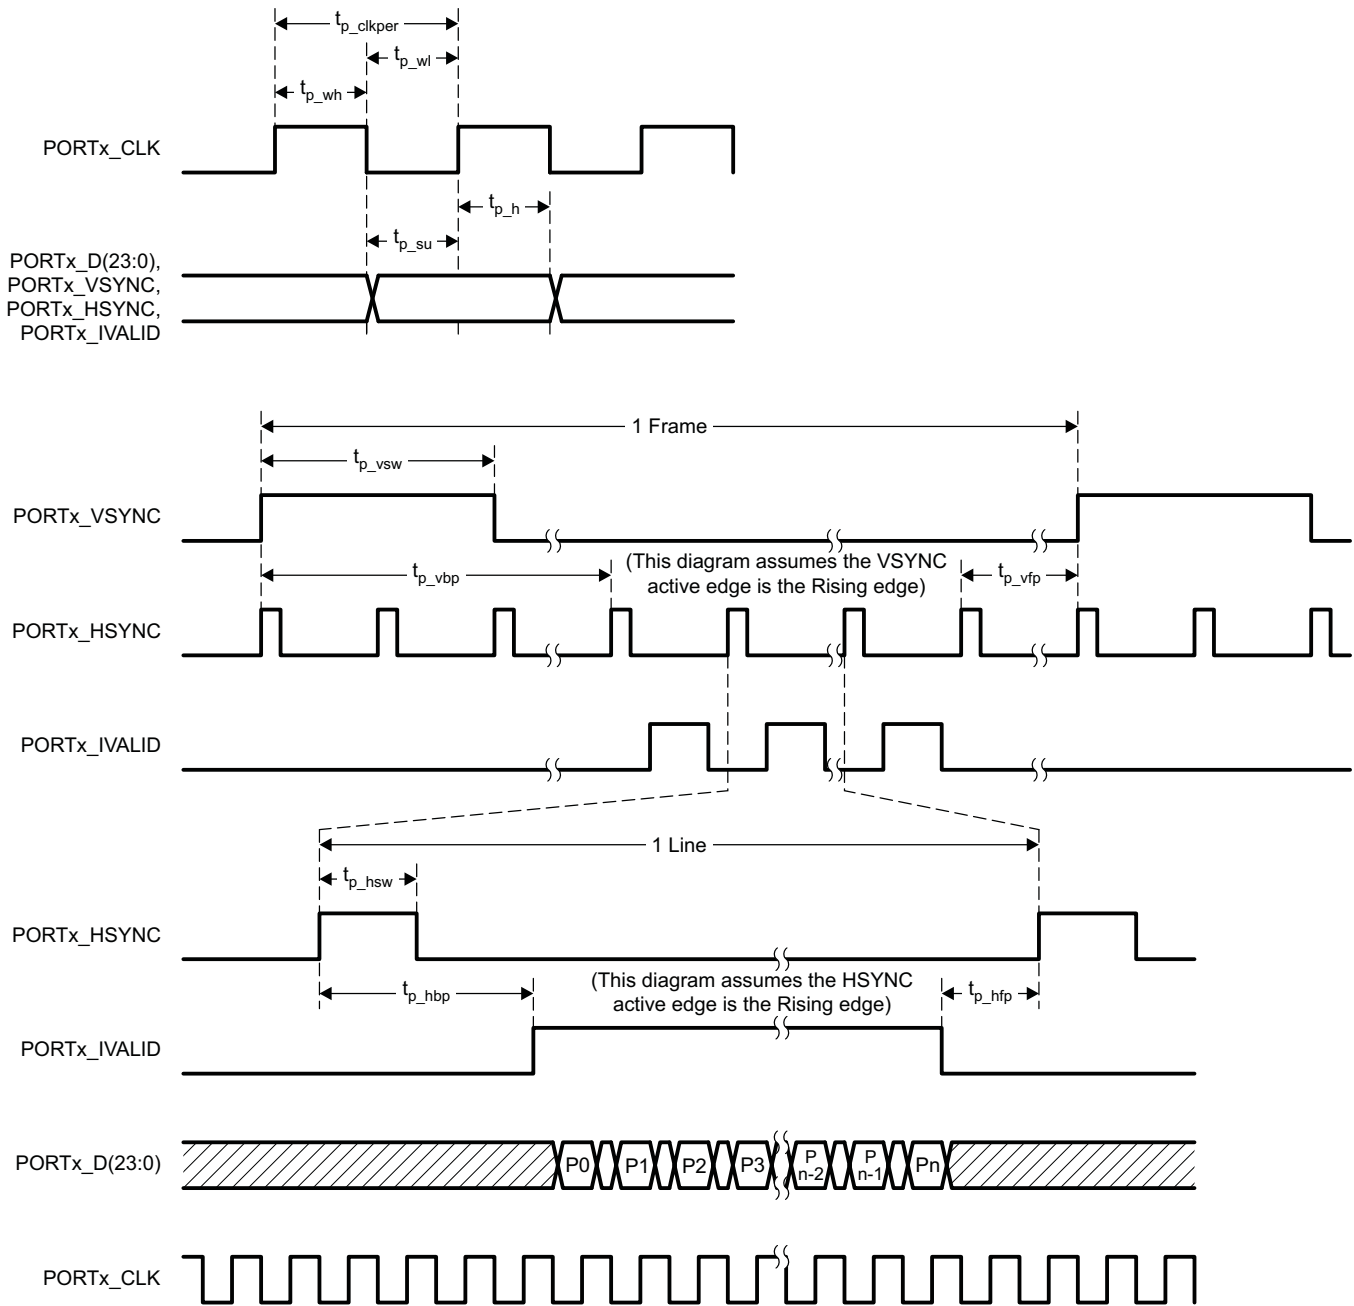

Figure 1. Input Port Interface
(1) PCLK may be inverted from that shown in Figure 1. In that case, the same specifications in the table are valid except now referenced to the falling edge of the clock. If the falling edge of PCLK is used, a USB or SPI command must be sent to tell the DLPC200 to use the falling edge of PCLK.